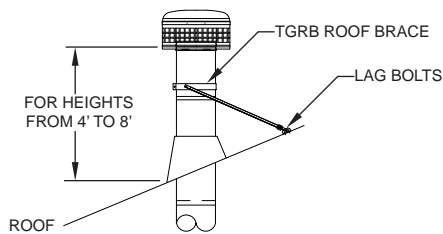
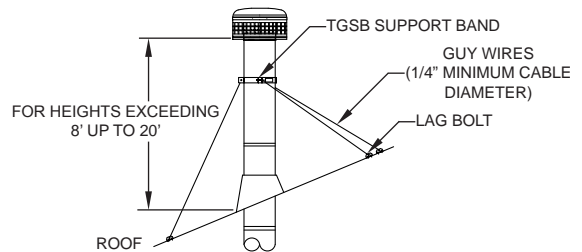

FIG. 22
FIG. 23
Select the proper support for your application, using either a roof brace (FIG. 22) or a support band with guy wires (FIG. 23)
3. Position the support legs as shown in FIG. 22. The length of the support legs can be adjusted by loosening the bolt on the leg clamp.